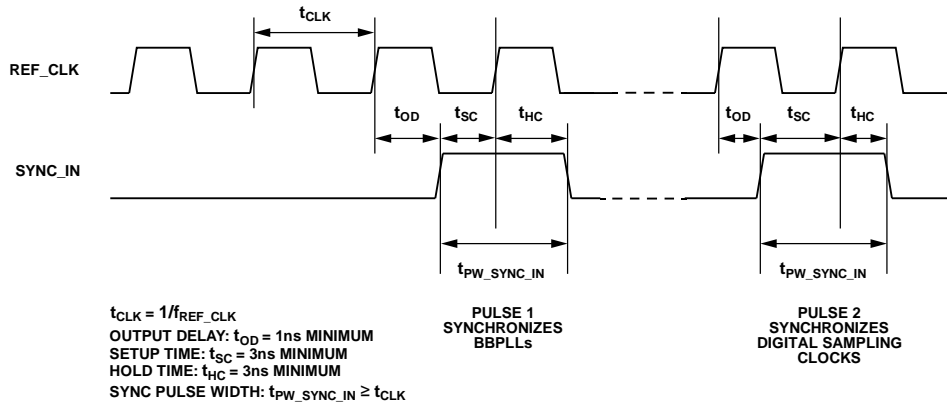
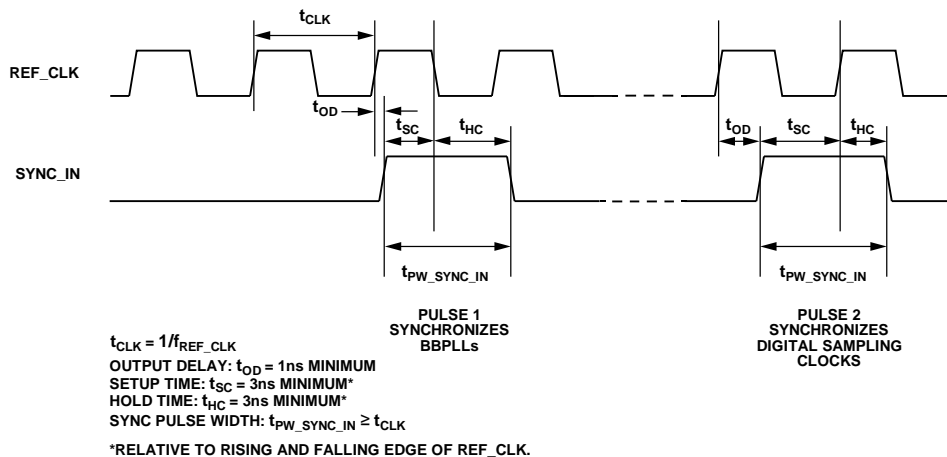
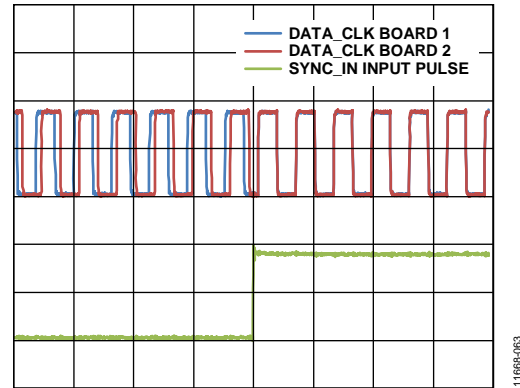

Figure 60. AD9361 BB Multichip Synchronization SYNC_IN Pulse Timing (BBPLL Internal REF_CLK Set to 1x)
Figure 61. AD9361 BB Multichip Synchronization SYNC_IN Pulse Timing (BBPLL internal REF_CLK Set to 2x)
Figure 62. Clock Signals of AD9361 IC1 and IC2 Before and After Second SYNC_IN Pulse (Initial Phase Random)
5. Input a rising-edge pulse to the SYNC_IN pin of each device. The timing requirements of this signal are illustrated in Figure 60 for the case where the internal BBPLL REF_CLK is a buffered version of the external REF_CLK and in Figure 61 for the case where the internal BBPLL REF_CLK is 2x the external REF_CLK. MCS cannot be used if the 1/2x or 1/4x options are selected for the internal BBPLL REF_CLK. Note that the SYNC_IN pulse rising edge must have a delay from the REF_CLK input to XTALN to ensure synchronization. This action synchronizes the BBPLL of each device to the same reference clock.
Data synchronization can be verified by observing the DATA_CLK signal of each chip simultaneously using an oscilloscope. The waveforms will overlap after successfully completing the sync procedure. Similarly, the CLK_OUT pin on each device (when enabled) can be monitored to determine if the ADC clocks are synchronized. Figure 62 illustrates the DATA_CLK signals of two devices before and after the second SYNC_IN pulse occurs. Note that the SYNC_IN pulse is much longer in duration than the DATA_CLK signals in this example. As long as the setup and hold times meet the requirements listed in Figure 60 and Figure 61, this is an acceptable combination because the SYNC_IN input is edge detected by the REF_CLK reference.